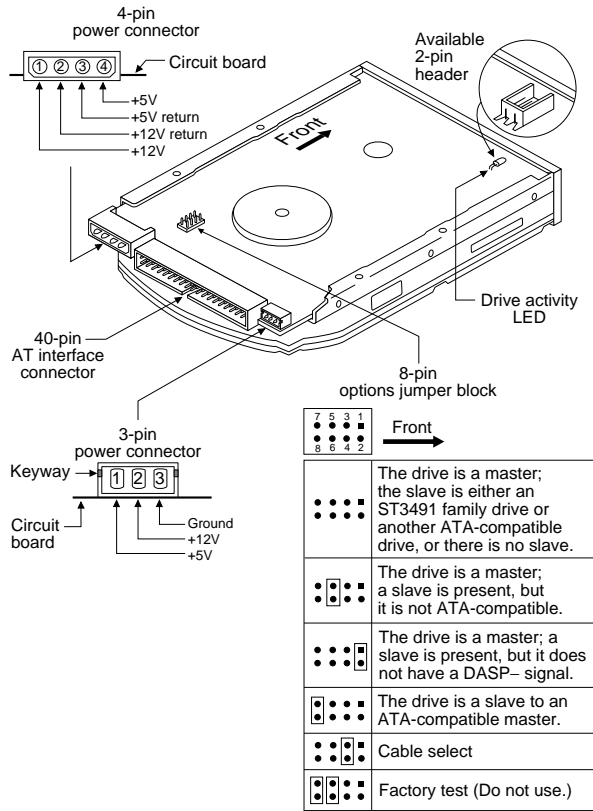

Figure 1. Jumpers and connectors
5. **Install master/slave jumpers.** The master/slave jumper block, shown in Figure 1 on page 4, accepts 2-mm connectors and jumpers. Use Seagate part number 13211-001 or equivalent.
One-drive system: Configure the drive for a one-drive system as shown in Figure 1.
- When using a standard ATA interface cable (that is, you are not using cable select): configure the drive as a master or a slave using the options jumper block as shown in Figure 1 on page 4.
- When using cable select (that is, you have a special cable supporting this drive selection method, and your computer and both drives all support cable select): first install a jumper on pins 3-4 of the options jumper block as shown in Figure 1; then use a drive-select cable as described in step 5 of "Attaching cables" on page 3 to designate master and slave drives.
Refer to Figure 1 on page 4 for the locations of the connectors.